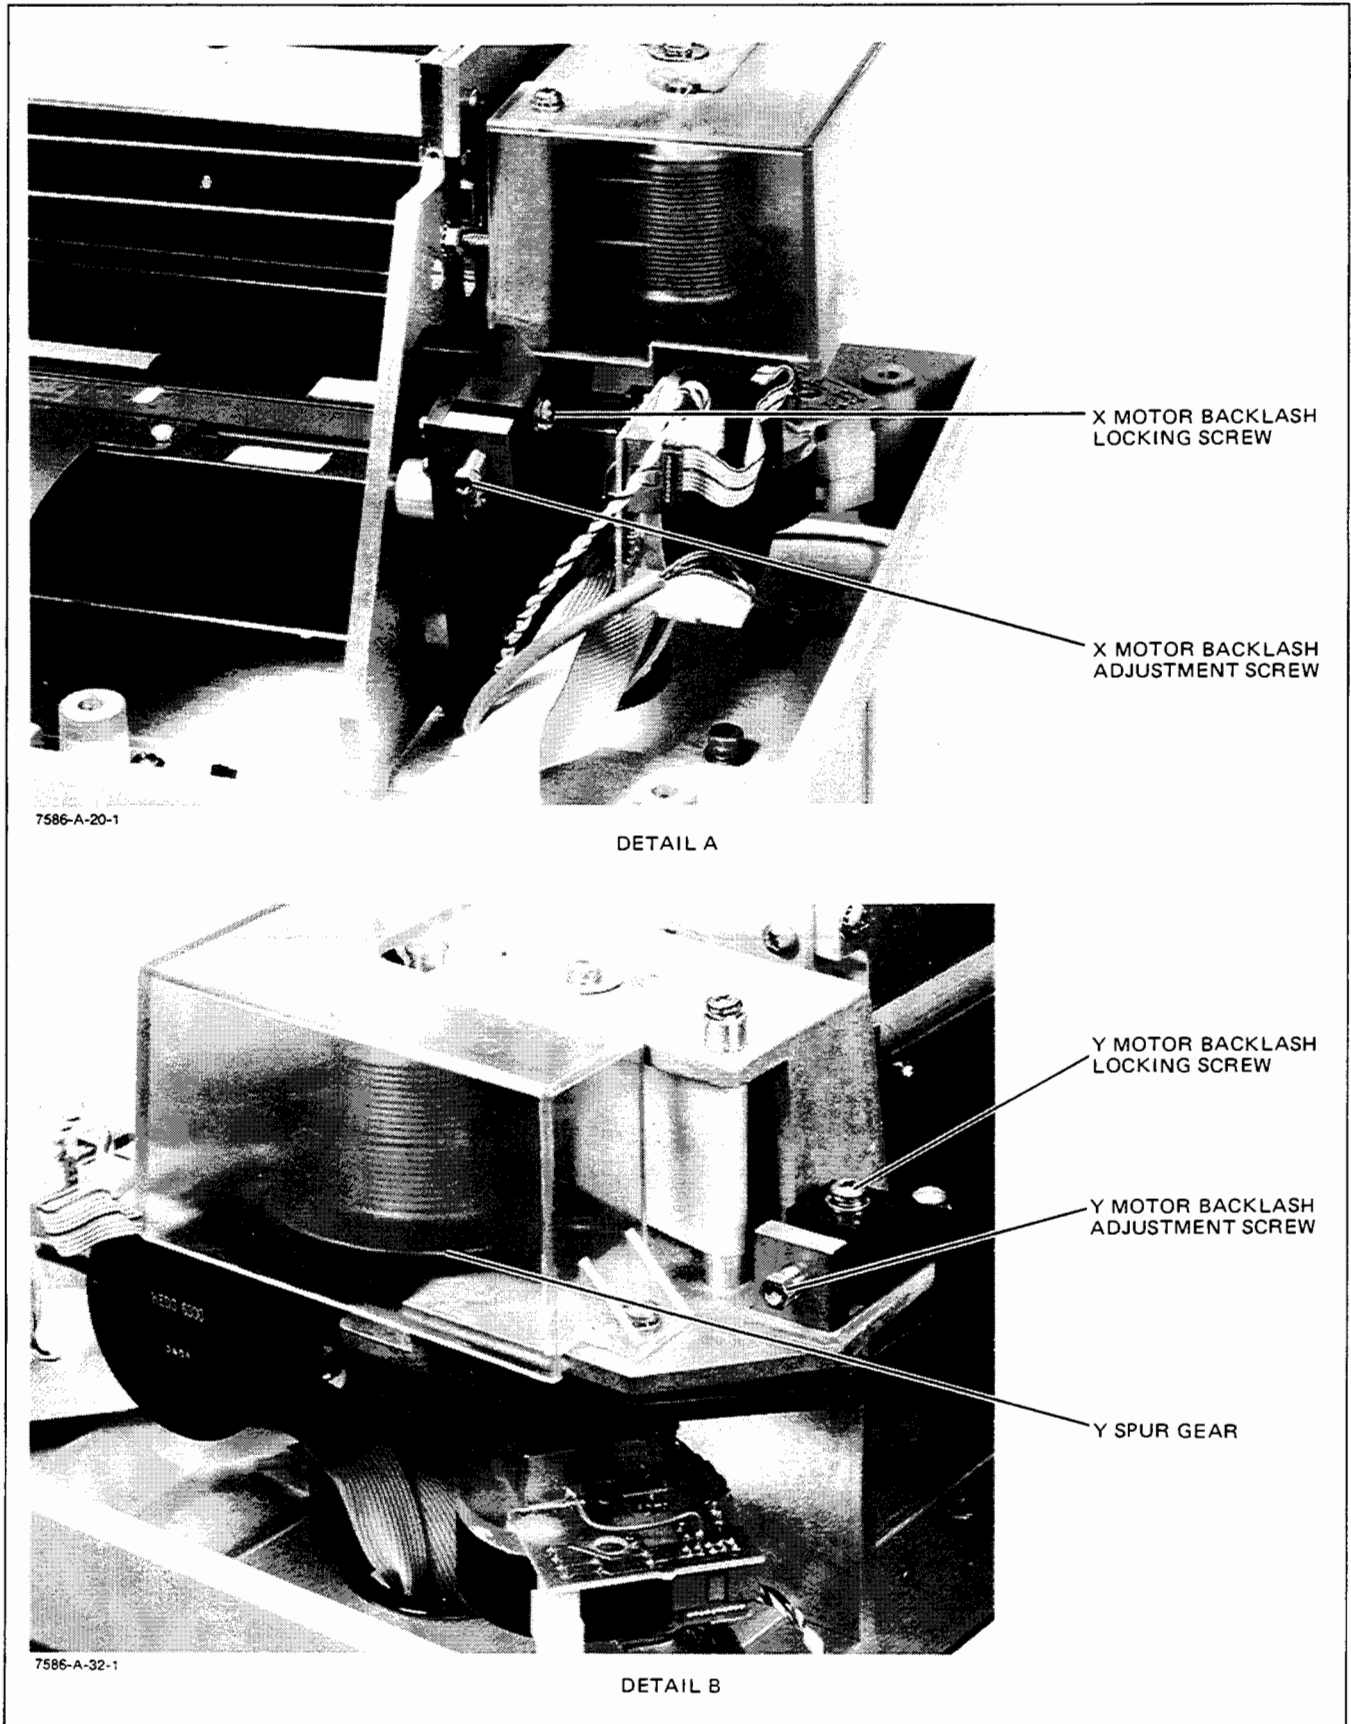

Figure 3-14. X- and Y-Motor Backlash Adjustments
- j. Turn the rear paper stop adjustment screw clockwise (CW) to move the paper stops toward the paper edge or counterclockwise (CCW) to move the stops away from the paper. Adjust so that the stops are fully flush against the paper edge.
- b. Loosen the X-motor backlash locking screw. See Figure 3-14.
- c. Loosen the X-motor backlash adjustment screw. See Figure 3-14.
- d. While gently rolling the grit wheel back and forth, turn the X-motor backlash adjustment screw clockwise (CW) until all backlash is removed. This can be felt through the rolling back and forth of the grit wheel. Note that excessive tightening will cause binding on the motor bearings.
- f. Loosen the Y-motor backlash locking screw. See Figure 3-14.
- g. Loosen the Y-motor backlash adjustment screw. See Figure 3-14.
- h. While gently rolling the Y-spur gear back and forth, adjust the Y-backlash adjustment screw clockwise (CW) until all backlash is removed. This can be felt through the rolling back and forth of the spur gear. Note that excessive tightening will cause binding on the motor bearings.